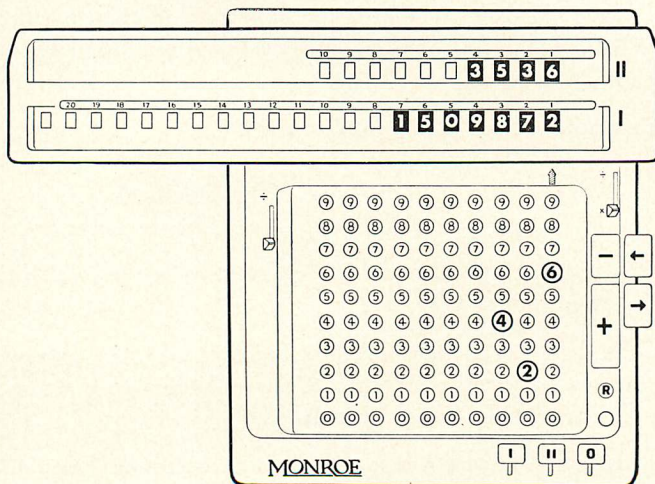

Figure 26
*Step 6*—Continue to move the carriage to the left and multiply digit by digit until the upper dials read 3536, the multiplier which was in the lower dials. At the completion of the operation the machine reads as in Figure 26, with 509872, the final result in the lower dials.